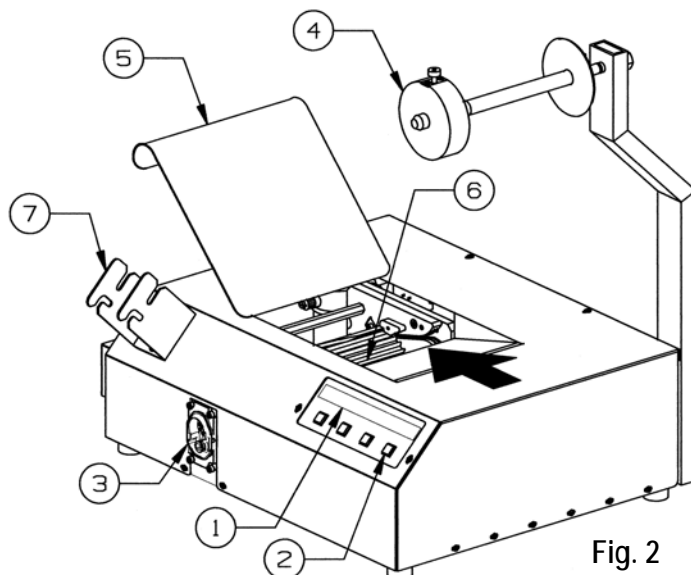

Fig. 2
After unpacking the components, mount the carrier strip scrap bin (See Figure 1) on the left side of the dispenser by positioning the larger holes in the bin over the cap screws on the dispenser, and sliding the bin down. Attach the tool holder bracket (See Figure 2 on Page 7) to the front of the dispenser by positioning the larger holes in the tool holder bracket over the cap screws on the dispenser, and sliding the bracket down into position. Refer to Page 26 for alternate mounting to walls, carts or bench tops. Always position the dispenser in the work area so there are no severe bends or twists in the PHM Feeder Hose.
The dispenser rotary receiver (Figure 2) will rotate slightly to align itself and the message "PANDUIT -- Tool is ready" will appear on the electronic display (Figure 2) for two seconds. The dispenser is now ready for loading.
3. Remove the cable tie reel from the protective plastic bag. Remove the corrugated cardboard wrap from around the cable ties. Remove the collar from the reel axle by pulling out on the release pin while sliding the collar off (See Figure 2). Carefully slide the cable tie reel onto the reel axle so that the reel turns clockwise as the cable ties are dispensed. Remove the cellophane tape from the end of the cable tie strip and discard. Replace the collar on the reel axle by pulling out on the release pin while sliding the collar on the axle until the pin locks the collar in place.
4. Open the tie guide door (See Figure 2), on the top of the dispenser, by pulling the door "up". Pull the end of the cable tie strip and guide the cable tie carrier strip against the back edge of the ramp as the cable ties enter the cover opening. Slide the carrier strip into the opening until it stops (See Figure 2). At this point, the first cable tie is positioned in the rotary receiver slot. Close the tie guide door. While maintaining a slight inward pressure on the cable ties, press the "Load" button once, to feed the first cable tie. If the carrier strip and cable tie are fed correctly, press and HOLD the "Load" button until 13 more cable ties are fed. As each cable tie is loaded, the number next to "Load" will decrease for each cable tie loaded. The dispenser cover must be closed and latched to load or cycle the system. The rotary receiver will not advance if the cover is open.